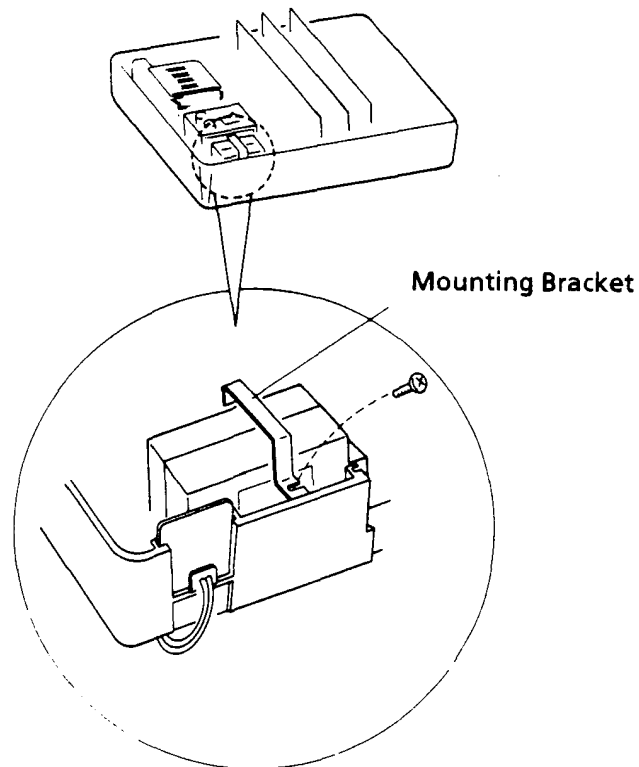

Figure 1-12 Removing Batteries
1. Removing the two built-in batteries. (Refer to Figure 1-12 - Removing Batteries.)